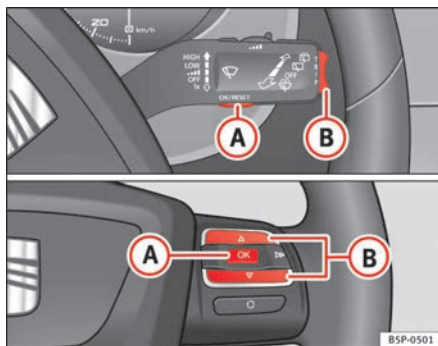

Fig. 39 Rocker buttons A and B. Steering wheel controls.
A **Service pre-warning** will appear in the mileage displays if a service is due soon. A “spanner” symbol appears and the display “km” with the distance that can be driven until the next service appointment is due. The display will change after approximately 10 seconds. A “clock symbol” appears and the number of days until the service appointment should be carried out. The following message is shown in the instrument panel display: **SERV. IN ... KM OR ... DAYS**. The service message will disappear approximately 20 seconds after the ignition is switched on or the engine is running. The normal display can be resumed by pressing the reset button on the trip counter or by pressing the rocker switch of the MFI ⇒ page 60, fig. 39 ②.
- When the ignition is on, briefly press button **A** on the windscreen wiper lever to change from one memory to another or press button **A** on the steering wheel controls \Rightarrow fig. 39.